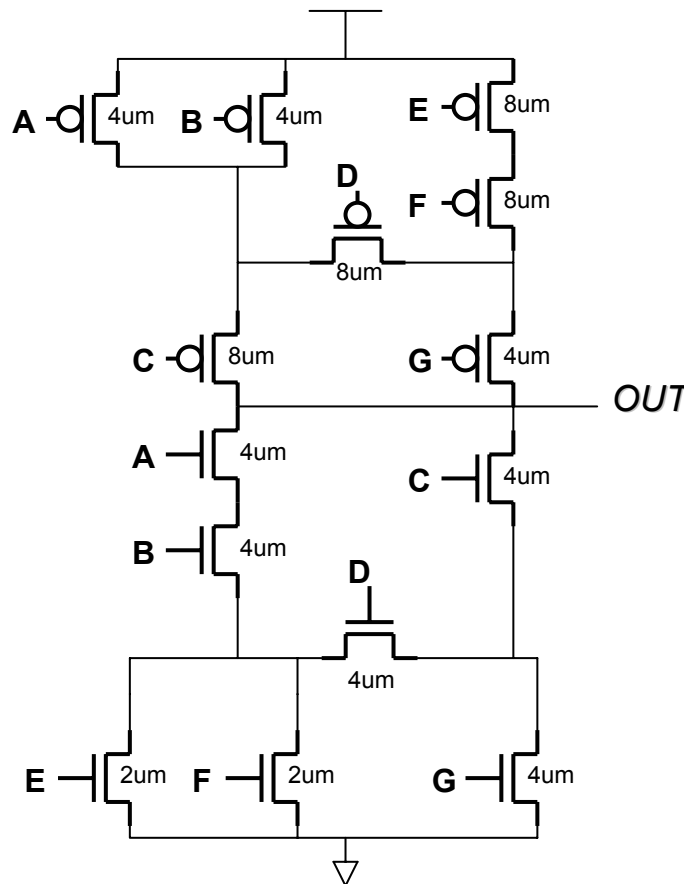

Figure 4.4
- Determine the worst case t_{pHL} and t_{pLH} transitions in the complex gate given in Figure 4.4. Indicate an initial and final input pattern in each case. Calculations are not required.
- Write a logic equation for the complex gate in Figure 4.4.